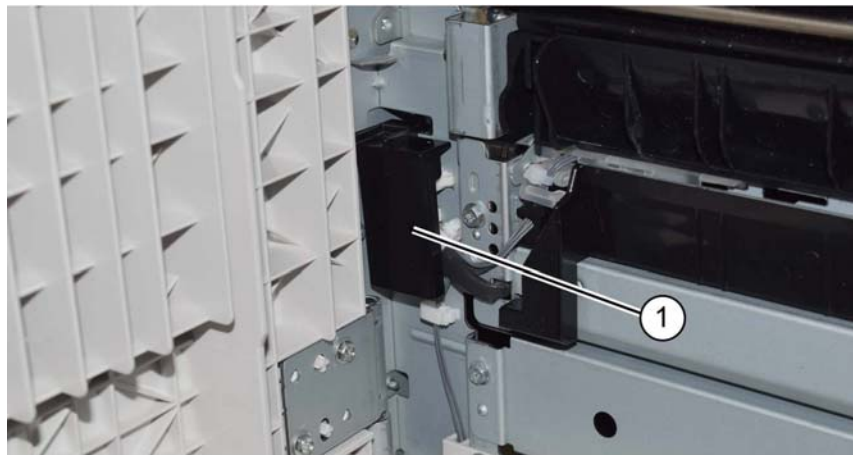

Figure 1 ESD cover removal
4. Remove the ESD cover (1) Figure 1: